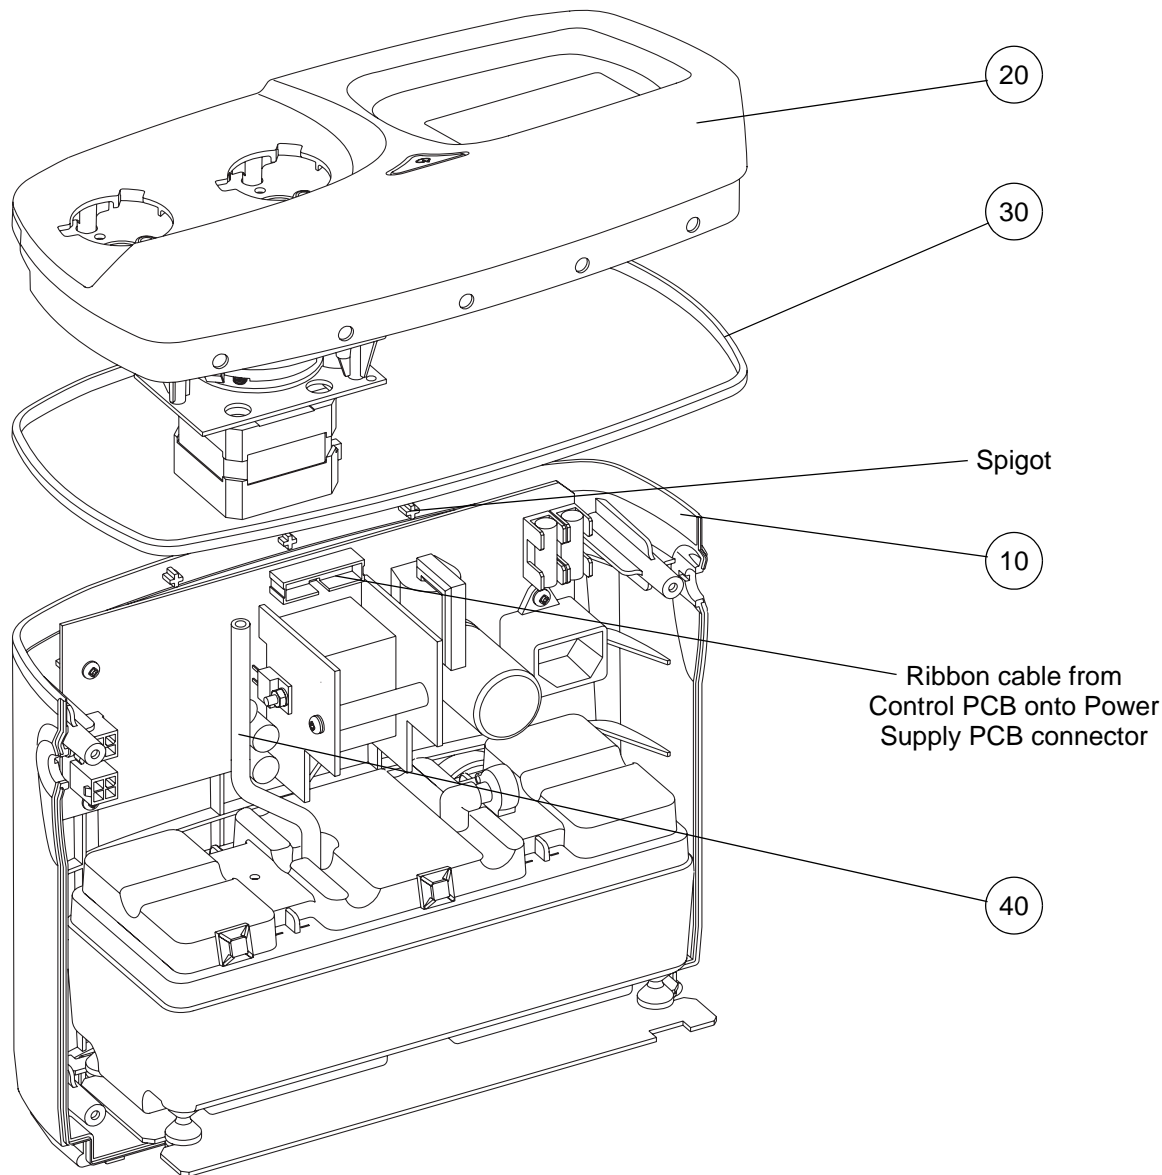

Figure 40 - Separating the Top Case Assembly from the Front Case
When the rear case has been removed from the pump, the top case assembly (Fig 40, Item 20) is held in position on the front case (Fig 40, Item 10) by three spigots on the front case which locate in the corresponding holes in the top case assembly.
- A large diameter tube (Fig 40, Item 40) from the motor and manifold assembly (in the top case assembly) to the compressor assembly (in the front case).
14.3 Carefully lift the top case assembly (Fig 40, Item 20) off the three spigots on the front case (Fig 40, Item 10).
14.4 Disconnect the following from between the top case assembly and the front case (Refer to Figure 40):
- The large diameter tube (Fig 40, Item 40) from either the motor and manifold assembly or the compressor assembly.
14.5 Remove the top case assembly from the front case, and the case style gasket (Fig 40, Item 30) from the top case assembly.
- 15.1 Install the case style gasket (Fig 40, Item 30) fully onto the top case assembly (Fig 40, Item 20).
- 15.2 Place the top case assembly by the top of the front case (Fig 40, Item 10). The inside surface of the front case and the five holes in the top case assembly must both be uppermost.
- 15.3 Connect the following between the top case assembly and the front case (Refer to Figure 40):
- 15.3.2 The large diameter tube (Fig 40, Item 40) onto either the motor and manifold assembly or the compressor assembly.